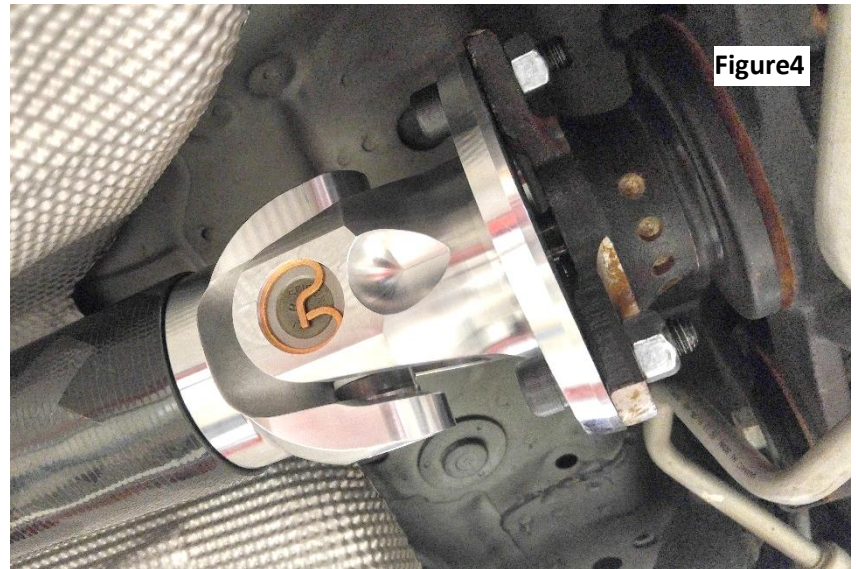

Figure4
3. Apply blue thread locker to the remaining three (3) M12 x 40mm bolts with nuts (6th Gen) or 30mm bolts without nuts (5th Gen) and bolt the rear flange joint to the pinion yoke. Snug bolts for the moment ensuring the flange is fully seated into the pilot of the pinion flange.
4. Attach the front of the driveshaft to the transmission adapter flange using blue thread locker and the six (6) M10x 65mm bolts supplied in the package. Ensure all color coded parts match and that the CV is evenly seated to the flange adapter. **Torque these bolts to 47 lb.-ft.**
5. Return to the rear pinion flange and **Torque these bolts to 85 lb.-ft.** Applying the parking brake will help prevent the pinion from rotating. **See Figure 4**